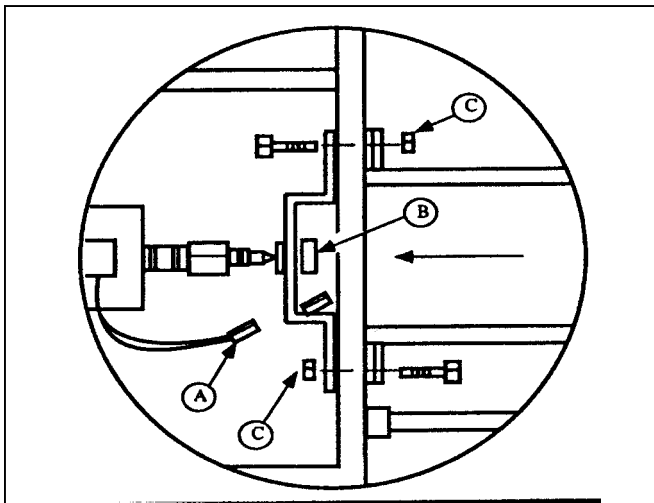

Figure 4-3
3. Unplug wire (A) at the glo-bar. Remove nut (B) and slide control assembly back. Unscrew bolts (C) fastening the orifice bracket to the control box, and pull out burner housing from tube off (Figure 4-3). Pull burner housing off fixed bolts, rotate counterclockwise ¼ turn and remove.